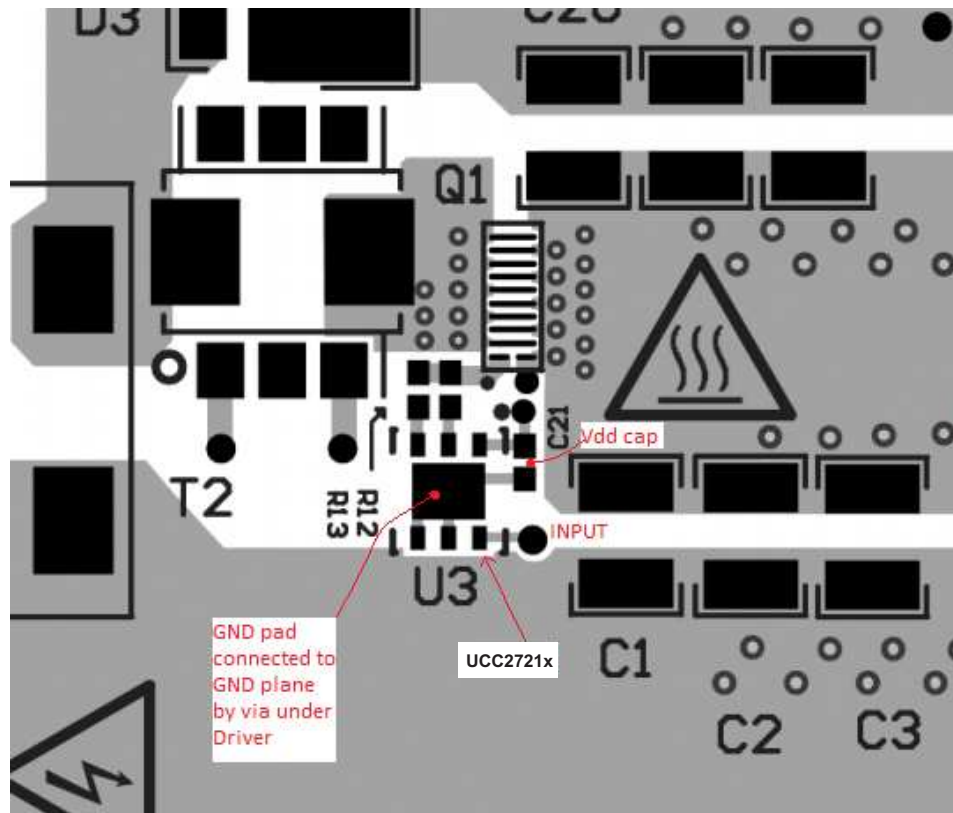

Figure 23. UCC27211A PCB Layout Example
- Locate the  $V_{DD} - V_{SS}$  and  $V_{HB} - V_{HS}$  (bootstrap) capacitors as close as possible to the device (see Figure 23).